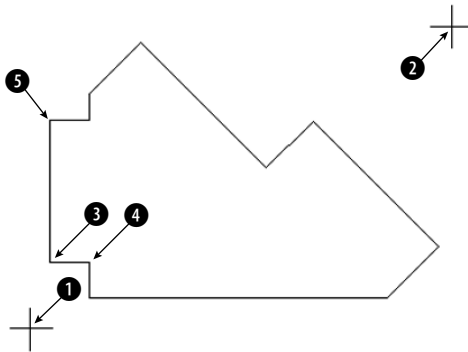

Figure 16-38: An unfolded sheet-metal template.
2. Save the file as ab16-09.dwg in your AutoCAD Bible folder. This is a sheet metal template as shown in Figure 16-38.
3. Make a photocopy of Figure 16-38 and tape it to the active area of your digitizer.
Digitize point #1: Pick ① in Figure 16-38.
Digitize point #2: Pick ② in Figure 16-38.
7. In Figure 16-38, pick **3** with the digitizer, then **4**, and then each line endpoint in turn, counterclockwise around the figure.